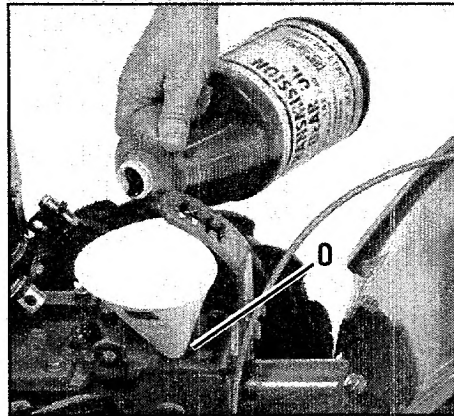

Figure 2-12: Adding gear oil.
- Clean area around oil fill hole (O, Figure 2-12) and unscrew oil fill plug.